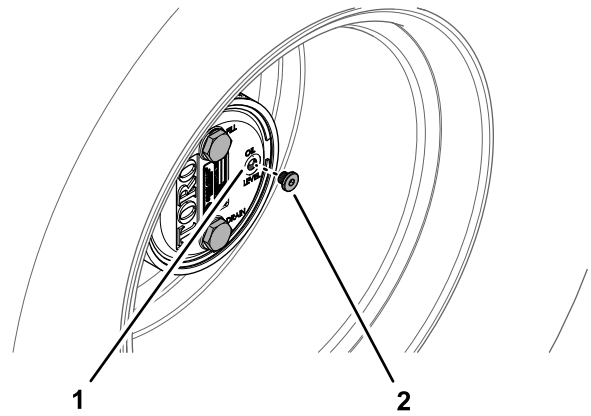

**Figure 99**
1. Park the machine on level surface, position the wheel so that the fill plug is at the 12 o'clock position, the check plug is at 3 o'clock position, and the drain plug is at the 6 o'clock position (Figure 99).
2. Remove the check plug at the 3 o'clock position (Figure 99).
1. Park the machine on level surface, position the wheel so that the fill plug is at the 12 o'clock position, the check plug is at 3 o'clock position, and the drain plug is at the 6 o'clock position; refer to Figure 99 in Checking the Planetary Gear-Drive Lubricant (page 66).